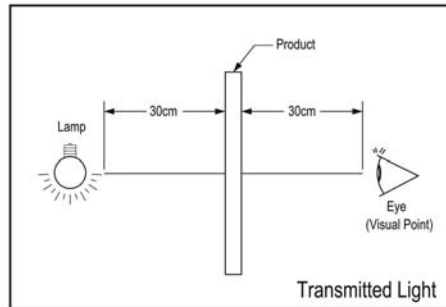
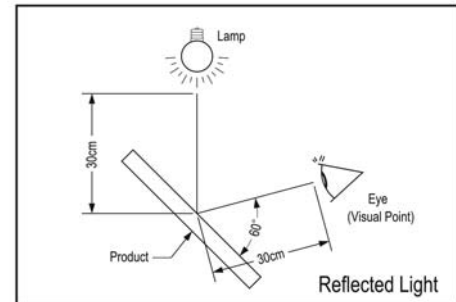

Figure 11-1
Figure 11-2
(1) 18W(1000 ± 500 Lux) fluorescent luminant lamp is used for appearance inspection. Detail settings are shown in (Fig 11-1) and (Fig 11-2).
[(1) 檢測始用之燈光為 18W(1000 ± 500 Lux)白熾燈光，詳細的擺設方式，請參考圖(Fig11-1), (Fig11-2)]
(2) Minor impurities outside active area are acceptable unless their existence affect electrical functions.